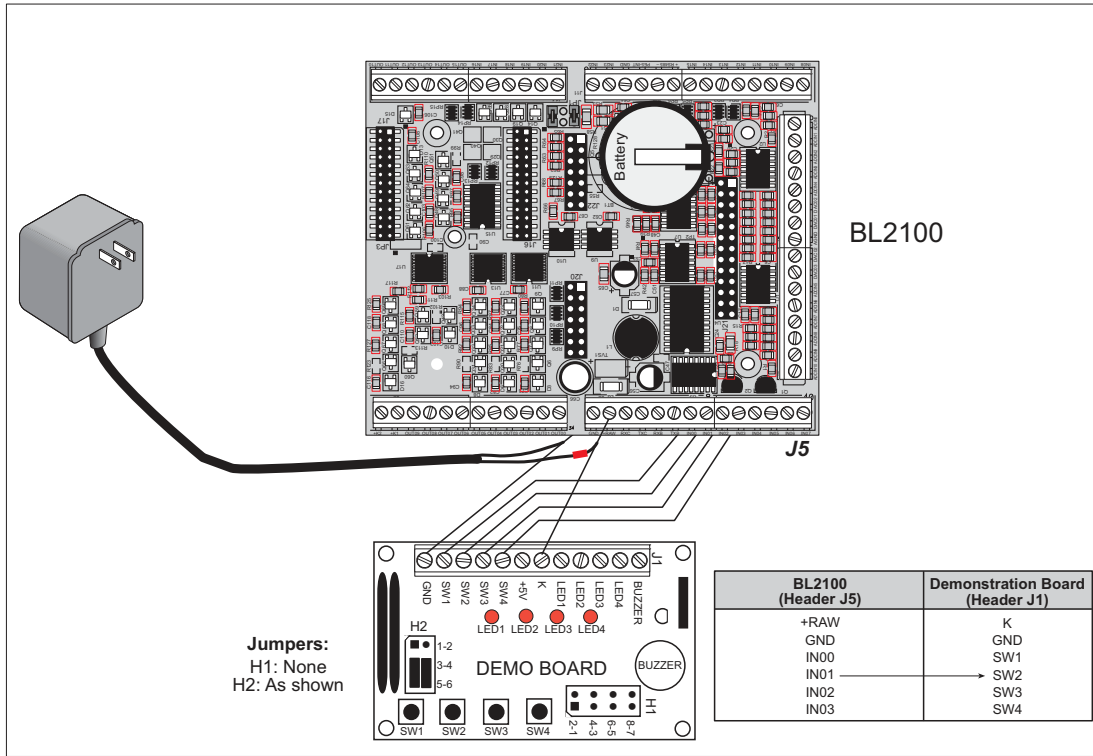
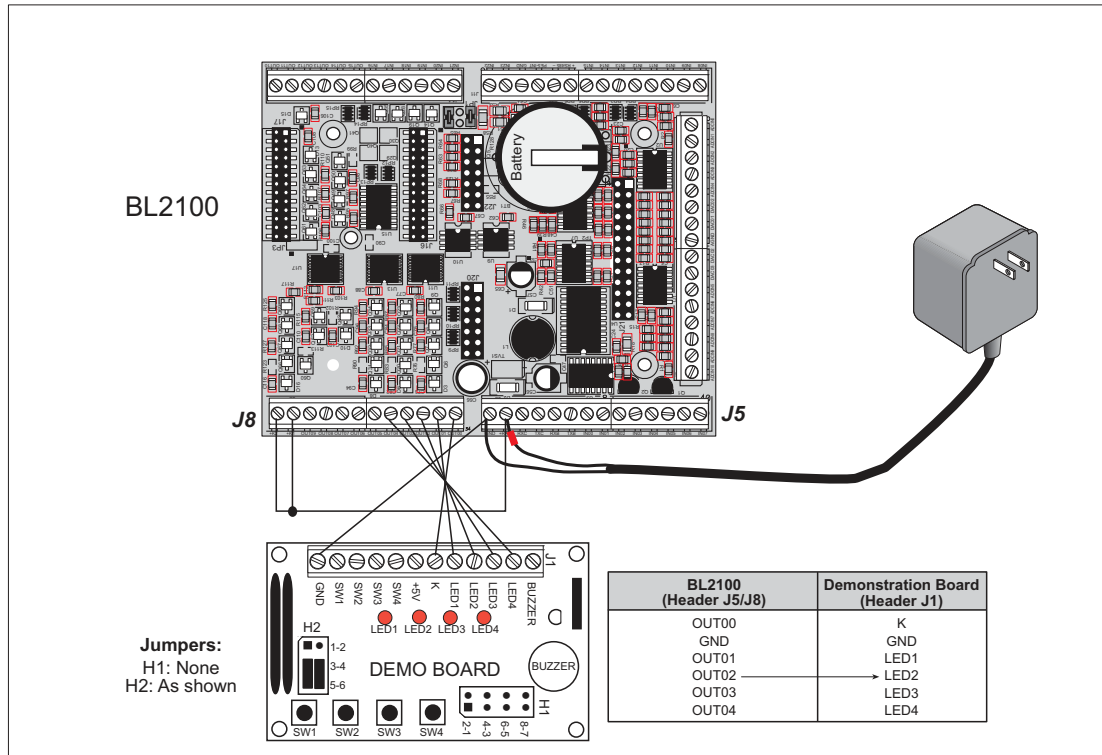
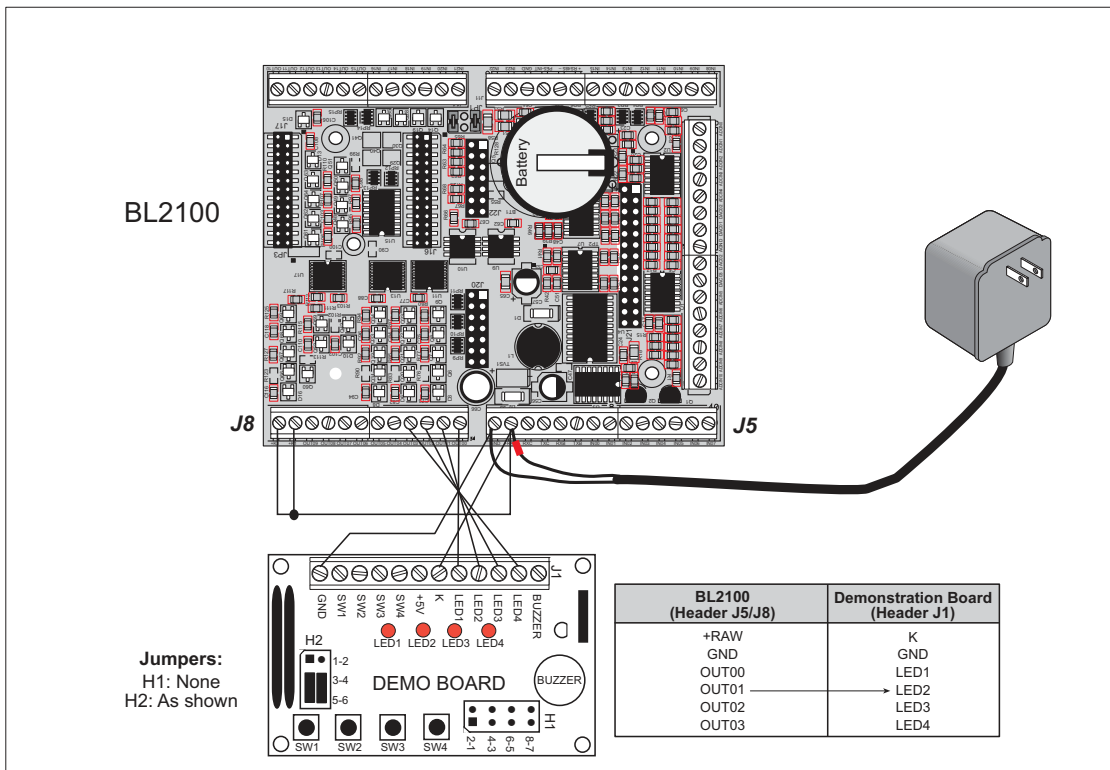

Figure E-1. General Digital Input Connections Between BL2100 and Demonstration Board
Figure E-2. Digital Output Connections Between BL2100 and Demonstration Board
Figure E-3. SSI .C Connections Between BL2100 and Demonstration Board
1. Use the wires included in the BL2100 Tool Kit to connect header J1 on the Demonstration Board to screw-terminal headers J5 and J8 on the BL2100. The connections are shown in Figure E-1 for sample program **DIGIN.C** and for sample program **SMT.P.C**, in Figure E-2 for sample program **DIGOUT.C**, and in Figure E-3 for sample program **SSI.C**.
NOTE: +K1 and +K2 on screw-terminal header J8 must be connected to +RAW on screw-terminal header J5 as shown in Figure E-2.
NOTE: +K1 and +K2 on screw-terminal header J8 must be connected to +RAW on screw-terminal header J5 as shown in Figure E-3.